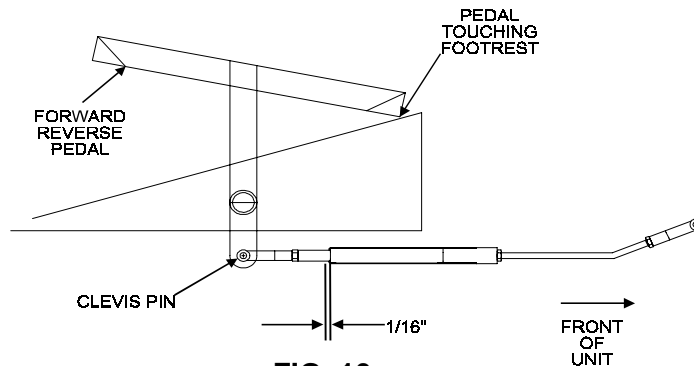

FIG. 10
- b) Check the gap between the motion override tube and the spacer. This gap should measure 1/16" (See Figure 10).